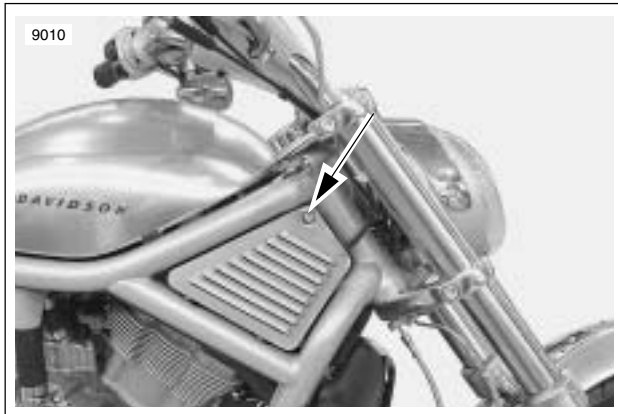

Figure 6-8. Removing Cover to Check Coolant Level
1. See Figure 6-8. Remove fastener at upper corner of louvered cover and remove cover.